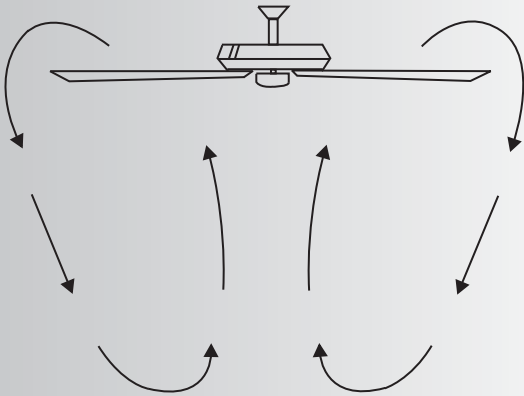

Fig. 26
**Cool Weather Operation:** Reverse (clockwise). An upward airflow moves warm air off the ceiling areas as shown in Fig. 26. This allows you to set your heating unit on a cooler setting without affecting your general comfort.